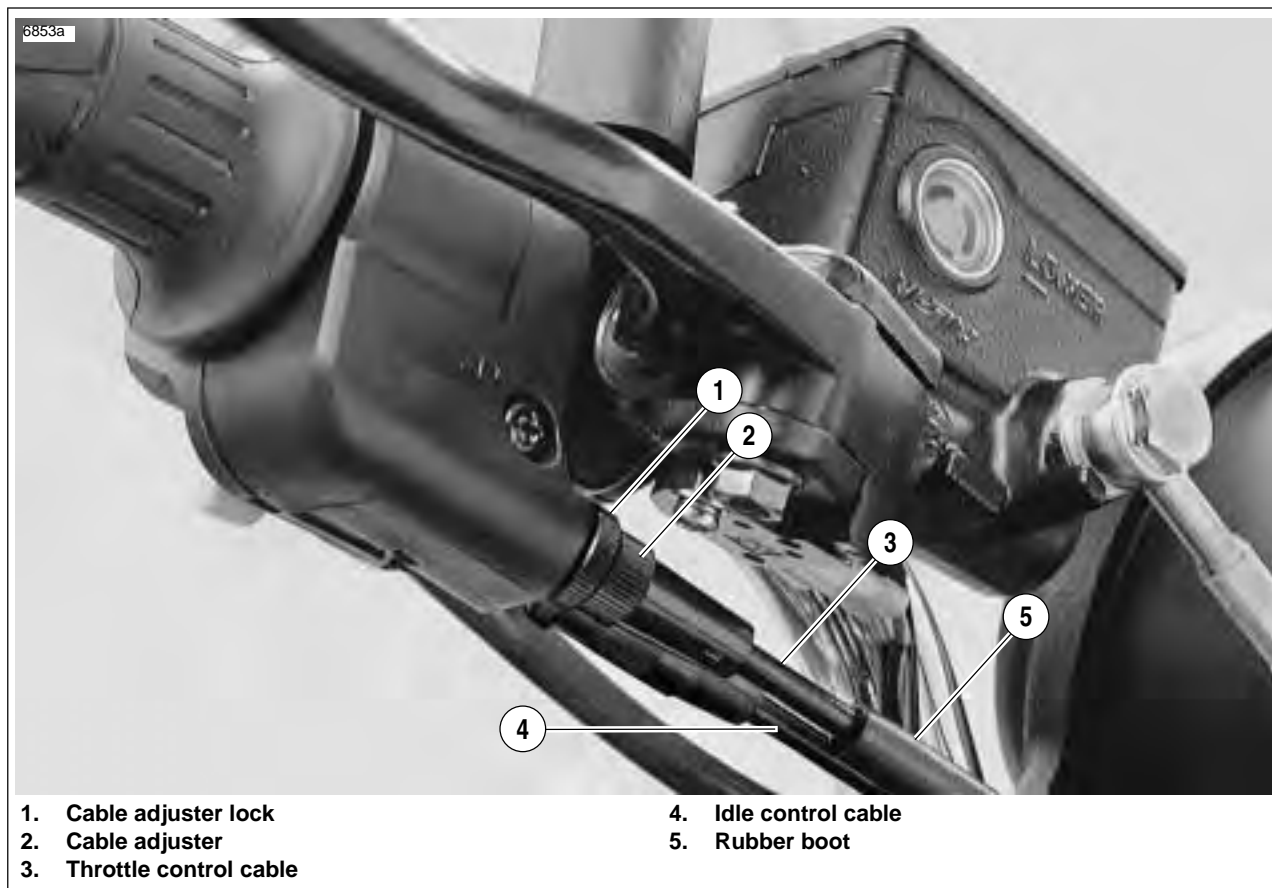

Figure 1-40. Throttle Cables
1. See Figure 1-40. Slide rubber boot (5) off cable adjuster (2).
2. Loosen cable adjuster lock (1) on each adjuster.
3. Turn adjusters (2) in direction which will shorten cable housings to minimum length.
5. Turn adjuster on throttle control cable (3) until throttle cam stop touches carburetor stop plate. Tighten adjuster lock on throttle control cable adjuster; release throttle control grip.
6. Turn handlebars fully to right. Turn adjuster on idle control cable (4) until end of cable housing just touches the carburetor cable guide.
7. Twist and release throttle control grip a few times. Carburetor throttle must return to idle position each time throttle grip is released. If this is not the case, turn adjuster on idle control cable (4) (shortening cable housing) until throttle control functions properly.
9. Slide rubber boot (5) over each cable adjuster (2). Recheck engine slow idle speed; adjust if required.